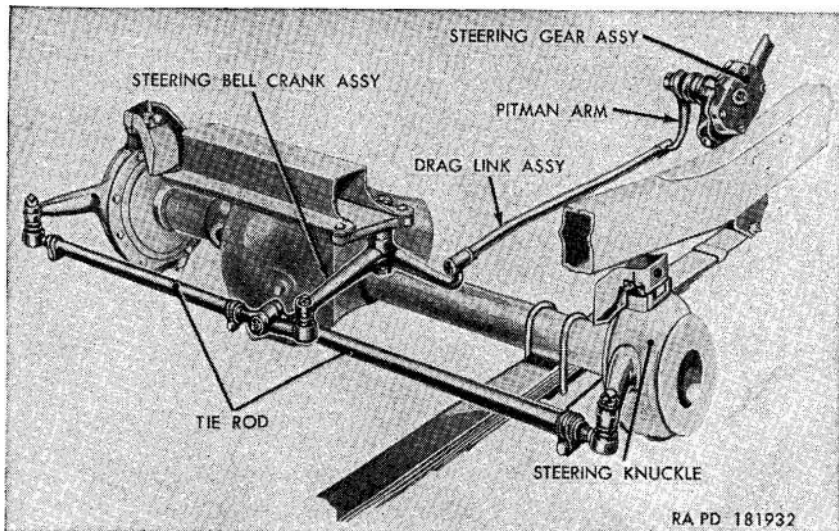

Figure 149. Steering system linkage.
*a. Description.* The steering system consists of the steering wheel, steering gear, Pitman arm, steering drag link, bellcrank, and two tie rods with ends. Except for the steering wheel and shaft jacket, the entire steering system is shown in figure 149. The steering gear is the cam and twin-pin levertype, and carries a conventional Pitman arm. The drag link is the conventional ball- and socket-type with spring-loaded adjustment. The bellcrank assembly includes needle bearings between the bellcrank and bellcrank shaft. The right tie rod with ends connects the bellcrank to the right steering knuckle arm. The left tie rod with ends connects the left end of the right tie rod to the left steering knuckle arm.
- (1) Remove the cotter pin (A) from the axle end of the drag link assembly (fig. 149). Unscrew, but do not remove, the axle end ball seat adjusting plug (B). Lift the drag link assembly off the ball of the bellcrank.
- (2) Remove the cotter pin (A) from the steering gear end of the drag link assembly (fig. 149). Unscrew, but do not remove,
- (1) Position the gear end of the drag link assembly over the ball of the Pitman arm (*fig. 149*), making certain that the ball enters between the two ball seats (C). Tighten the gear end ball seat adjusting plug (G). Back off the plug one-quarter turn and until one of the slots is aligned with the holes in the drag link, and install a  $1/8 \times 13/4$  cotter pin (A) and spread pin ends.
- (2) Position the axle end of the drag link assembly over the ball on the steering bellcrank (*fig. 149*), making certain that the ball enters between the ball seat (C) and the ball seat spring (D). Tighten the axle end ball seat adjusting plug (B). Back off the plug one-half turn and until one of the slots is aligned with the holes in the drag link and install a  $1/8 \times 1\%$  cotter pin (A) and spread pin ends.